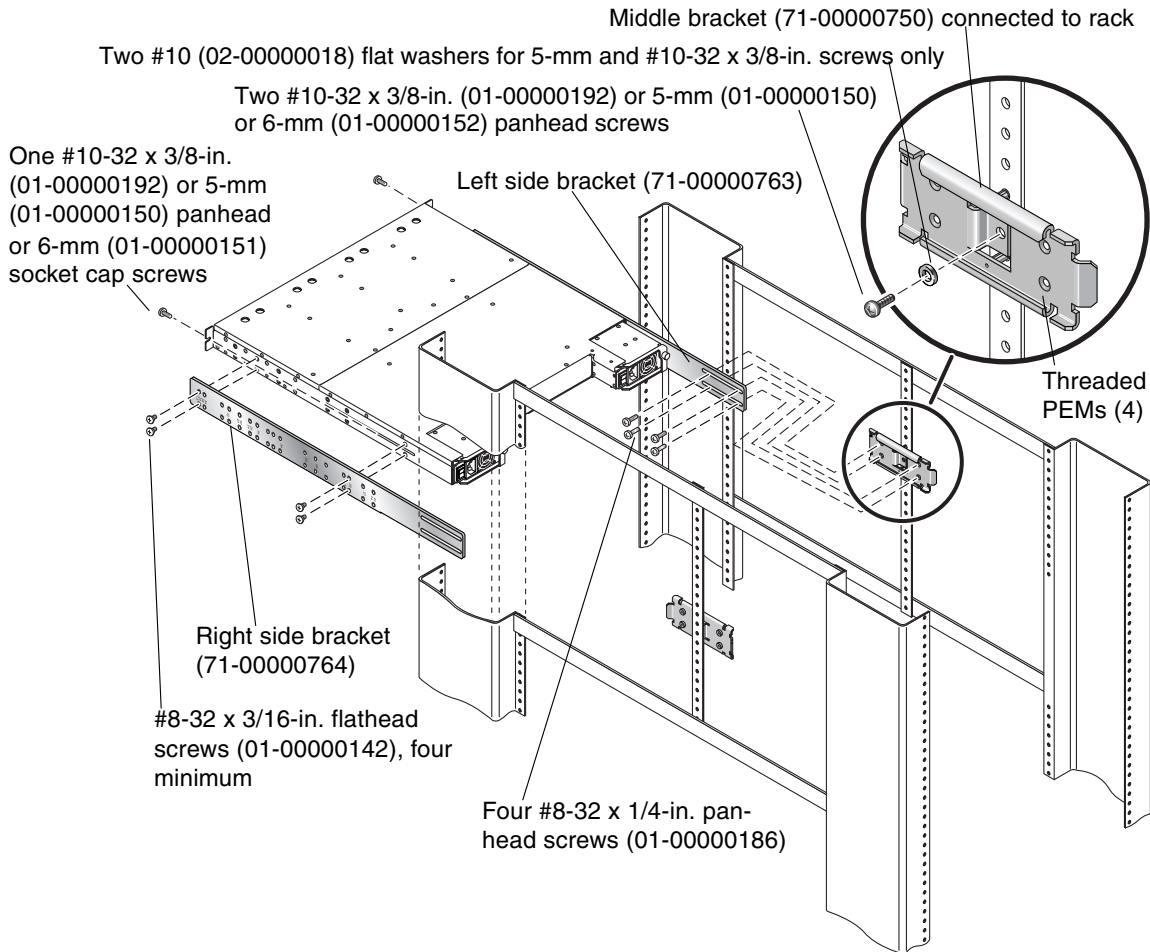

FIGURE 2-9 Cabinet Rackmount with Middle Brackets
6. Attach the middle brackets to the rack center posts using one screw per post. (See FIGURE 2-9).